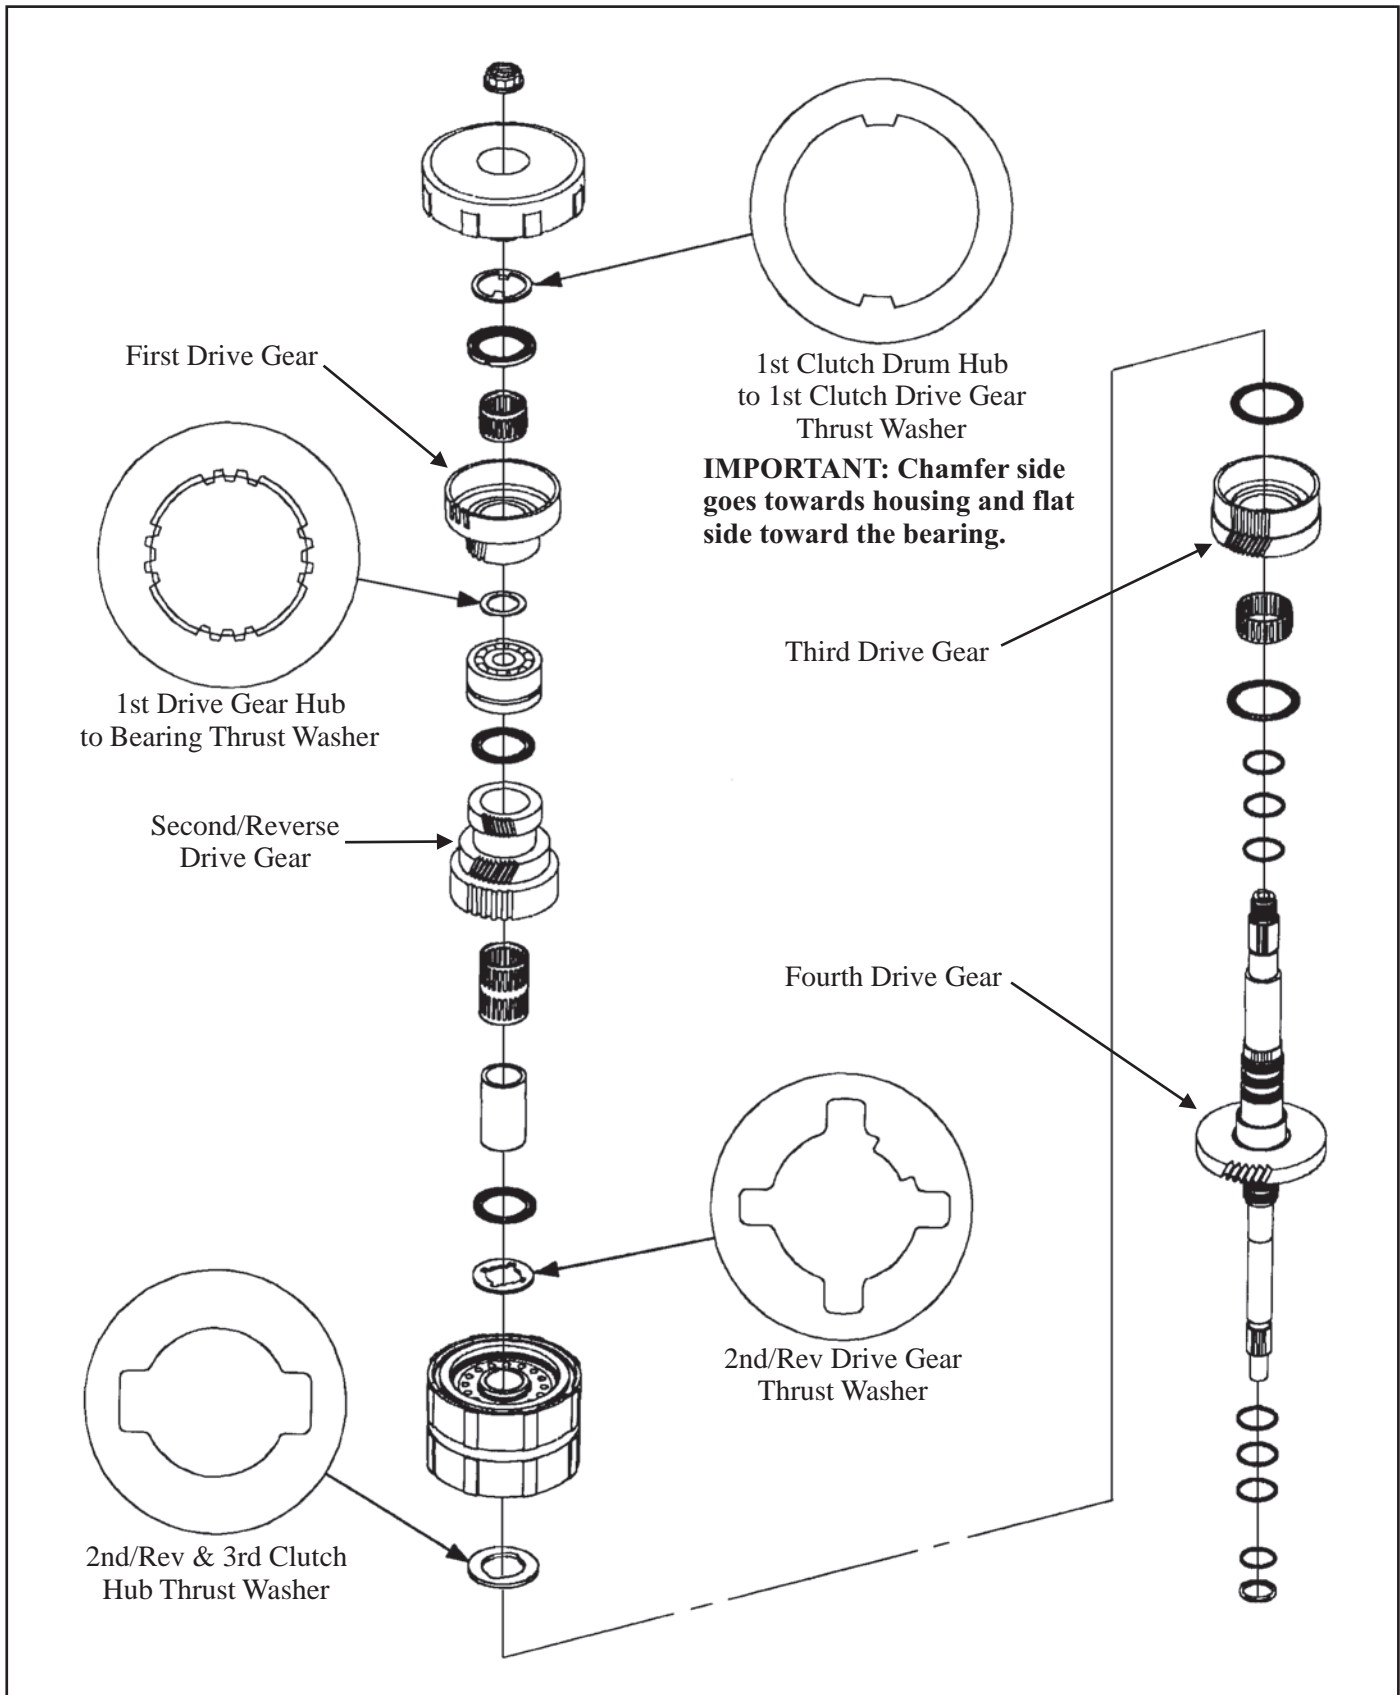

Figure 122
**IMPORTANT: The chamfer side of the washer must face the housing (See Figures 122 and 123).**